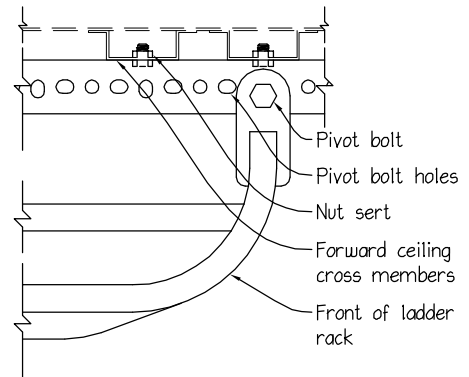

FIG. 2 - Side View
2. From this eyebolt measure forward in van approximately 78". At this point you should be between two ceiling cross braces running from side to side on the van ceiling. Find centers of these two cross braces. Measure out in both directions 6-1/2" on both braces. Drill 4 - 7/16" holes. Insert 4 nut serts in these holes as done in Step 1. Center mounting bracket on these two braces from front to rear and choose a set of 4 bolt holes that match your 4 nut serts. Attach bracket with fasteners provided. Mount pivot end of ladder rack in mounting bracket holes that are approximately 78" from rear eyebolt. Attach pivot end of ladder rack to bracket using 2 - 5/16 bolts and locking nuts provided. Tighten these bolts until snug, but will still turn. (See Fig. 2)